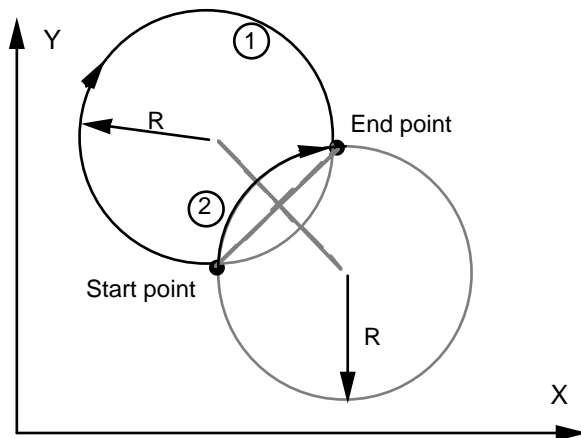

Figure 4-10. Specify the Radius and Center with R
The radius can also be given with address R instead of specifying the center using I, J or K. In this case, two arcs with the same start and end points are considered. One arc is less than 180° whereas the other is greater than 180° . When the arc exceeding 180° is commanded, the radius must be specified with a negative value. In Figure 4-10, a negative value with address R specifies arc (1), a positive value specifies the shorter arc (2).